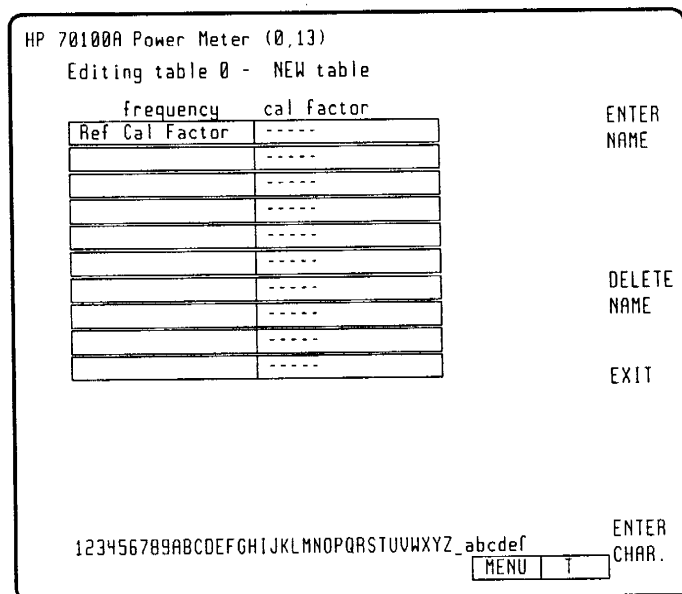

Figure 6-7. Name Table Menu
This function is used to name a sensor data table. When **name table** is pressed, the display will be as shown in Figure 6-7.
1. Press **name table**. The menu will be as shown in Figure 6-7.